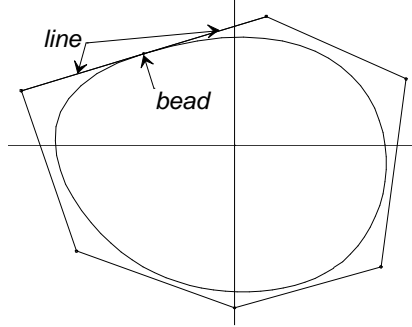

Fig. 3
- A B-spline loop that begins and ends at a Bead on a Line between the two next-to-end control points (Fig. 3). See also Tangency and B-spline Curve Loops in the Building Tangency with B-splines tutorial..